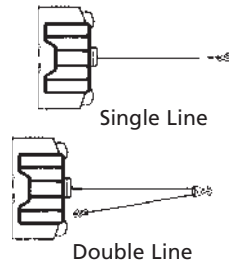

Figure 2
1. Maximum working load capacity is on the wire rope layer closest to the drum. DO NOT OVERLOAD. DO NOT ATTEMPT PROLONGED PULLS AT HEAVY LOADS. Overloads can damage the winch and/or the wire rope and create unsafe operating conditions. FOR LOADS OVER 1/2 RATED CAPACITY, WE RECOMMEND THE USE OF THE OPTIONAL PULLEY BLOCK TO DOUBLE LINE THE WIRE ROPE (Figure 2). This reduces the load on the winch and the strain on the wire rope by approximately 50%. Attach hook to load bearing part. **The vehicle engine should be running during winch operation.** If considerable winching is performed with the engine off, the battery may be too weak to restart the engine.